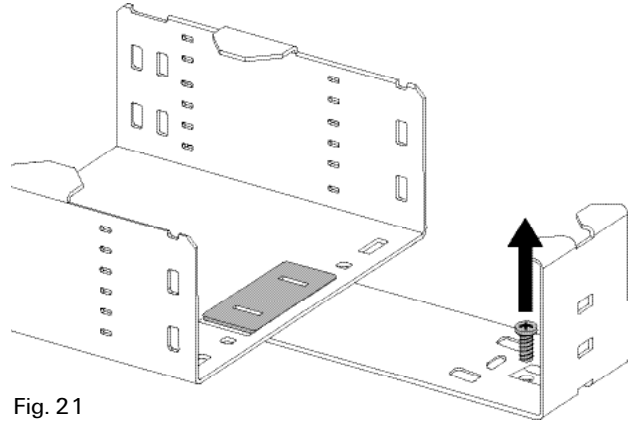

Fig. 21
1. Remove the Phillips screw that secures the non-hinged end of the slack basket to the closure body. (Fig. 21)